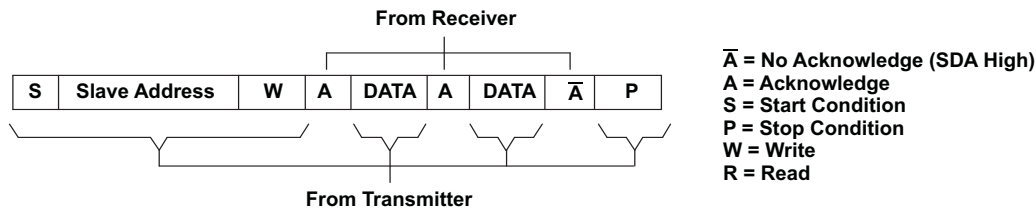
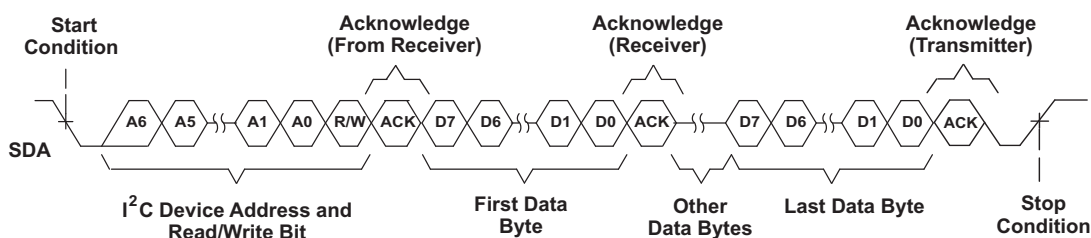
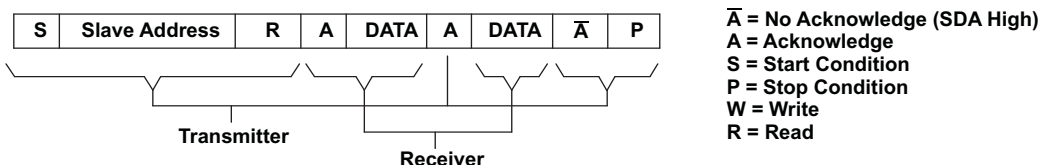
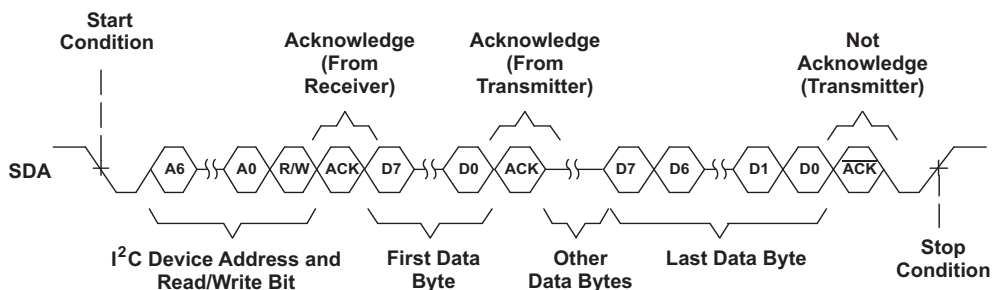

Figure 9. I²C Write Cycle
Figure 10. Multiple Byte Write Transfer
Figure 11. I²C Read Cycle
Figure 12. Multiple Byte Read Transfer
During a write cycle, the transmitting device must not drive the SDA signal line during the acknowledge cycle, so that the receiving device may drive the SDA signal low. After each byte transfer following the address byte, the receiving device pulls the SDA line low for one SCL clock cycle. A stop condition is initiated by the transmitting device after the last byte is transferred. Figure 9 and Figure 10 show an example of a write cycle. Note that the THS7347 does not allow multiple write transfers to occur. See the example, **Writing to the THS7347**, in **WRITE AND READ EXAMPLES** for more information.
During a read cycle, the slave receiver acknowledges the initial address byte if it decodes the address as its address. Following this initial acknowledge by the slave, the master device becomes a receiver and acknowledges data bytes sent by the slave. When the master has received all of the requested data bytes from the slave, the not acknowledge ($\bar{A}$) condition is initiated by the master by keeping the SDA signal high just before it asserts the stop (P) condition. This sequence terminates a read cycle, as shown in Figure 11 and Figure 12. Note that the THS7347 does not allow multiple read transfers to occur. See the example, **Reading from the THS7347**, in **WRITE AND READ EXAMPLES** for more information.
The THS7347 operates using only a single-byte transfer protocol similar to that illustrated in Figure 9 and Figure 11. The internal subaddress registers and the functionality of each are given in Table 2. When writing to the device, it is required to send one byte of data to the corresponding internal subaddress. If control of all three channels is desired, then the master must cycle through all the subaddresses (channels) one at a time; see the example, **Writing to the THS7347** (in WRITE AND READ EXAMPLES) for the proper procedure of writing to the THS7347.